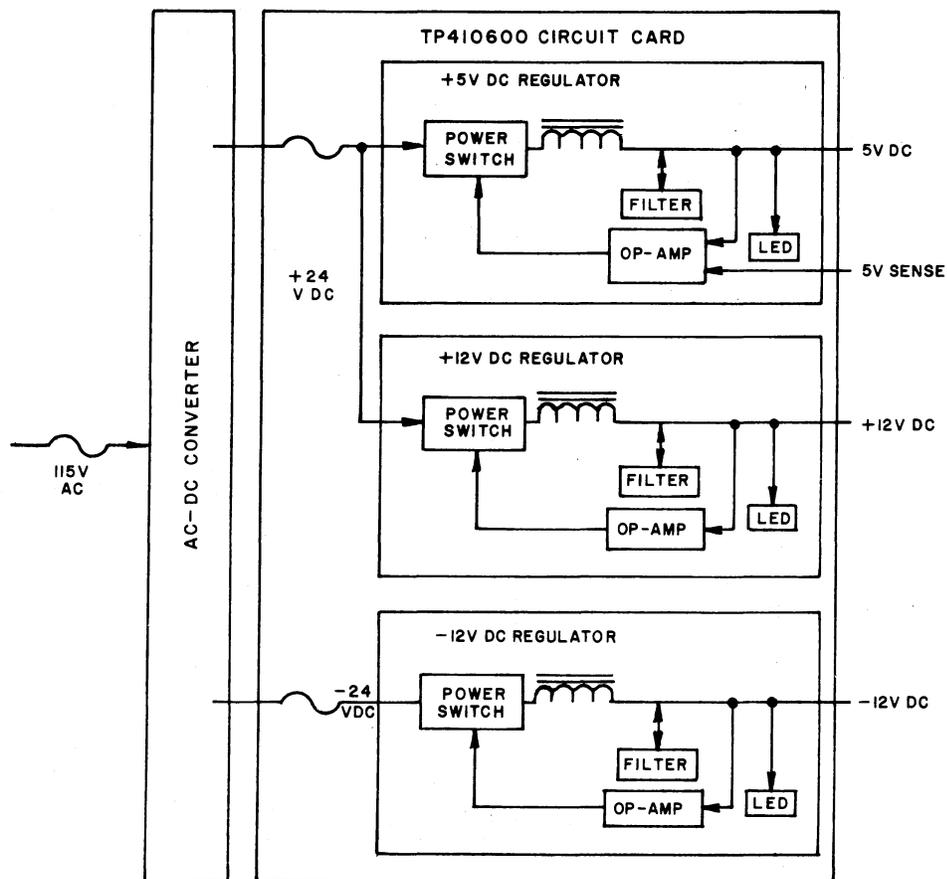

Fig. 6—Block Diagram of 40PSU101 Power Supply
A. 40PSU101 Power Supply (Fig. 6)